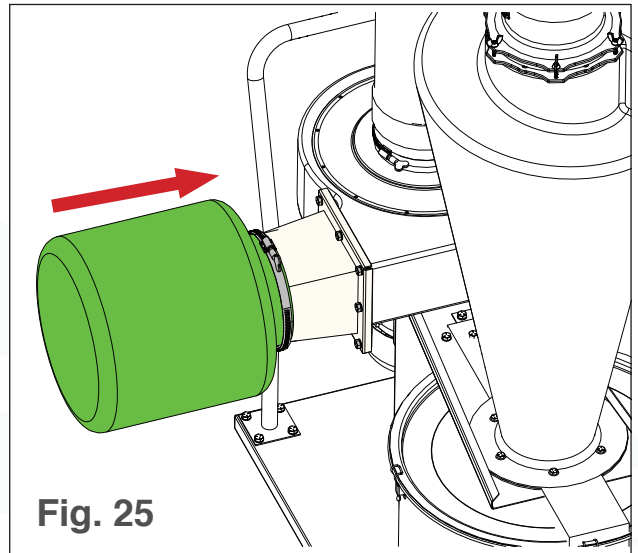

Fig. 25
3. Slide the filter bag opening over the filter adapter (see Fig. 25).